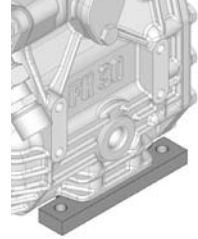

Fig. 8
- In the condition on delivery the compressor is provided with installation feet (see Fig. 8). Alternatively the compressor can also be bolted directly, without installation feet, on the substructure.